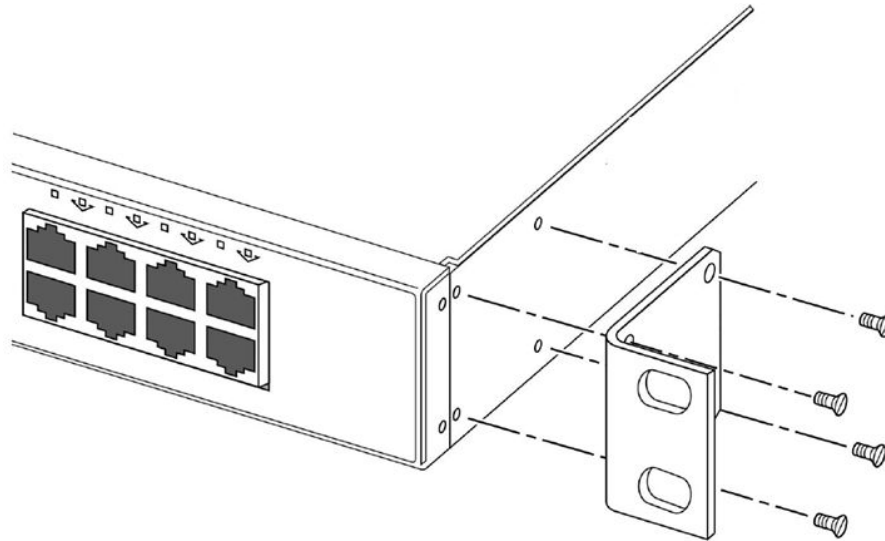

Figure 135: Front Mount: Attaching a Short Mounting Bracket
- Figure 135 shows a front-mount configuration using a short mounting bracket.